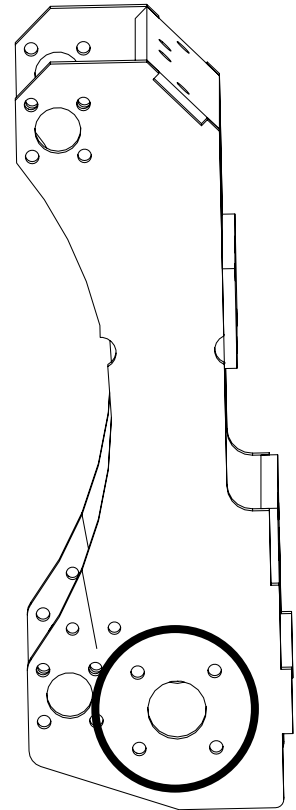

Figure 6
1. Residual Loctite must be removed from specific bolt holes. On each side of the grabber carriage assembly, at the location where the motors attach to the grabber assembly, clean the four (4) bolt holes and the large hole for the motor shaft.
- a. Start by cleaning inside the bolt holes with a tube brush on an electric drill (see Figure 6 for location of holes). Clean the bolt holes on **both sides of the grabber assembly** where the motors are bolted onto the grabber assembly. The residue from the Loctite is hard and is a contaminate for the installation of the new hardware if it is left in place. The holes are clean when all of the Loctite is removed; do not grind the holes.
- b. Clean the large hole for the motor shaft (see Figure 6) with a tube brush on an electric drill. Clean both of the large holes on **both sides of the grabber assembly**. The holes are clean when all of the Loctite is removed; do not grind the holes.
12. Insert the motorshaft support bearing into the large motor shaft hole on the grabber carriage assembly (the hole you already prepped) (see Figure 6). Use the bearing retainer to assist in locating the bearing position. Do this on both motor shaft holes — one bearing per large hole.